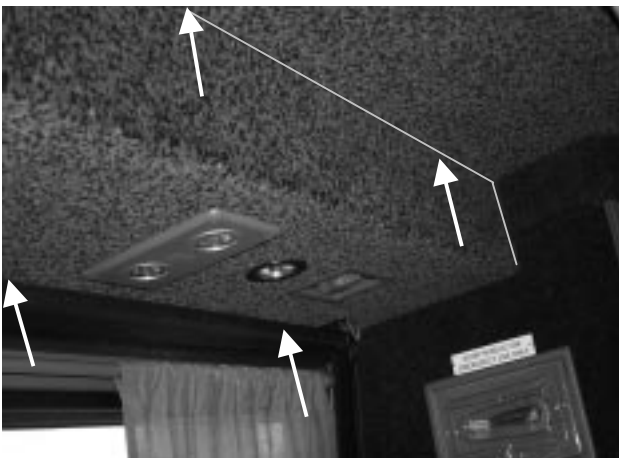

Figure 15: Lift door overhead capping. Approximate location of screws.
- 1) Undo and remove the self-tapping screws securing the lift door overhead capping to the coach body. See Figure 15 for the approximate location of the screws, which are hidden in the fabric. Lower the capping.